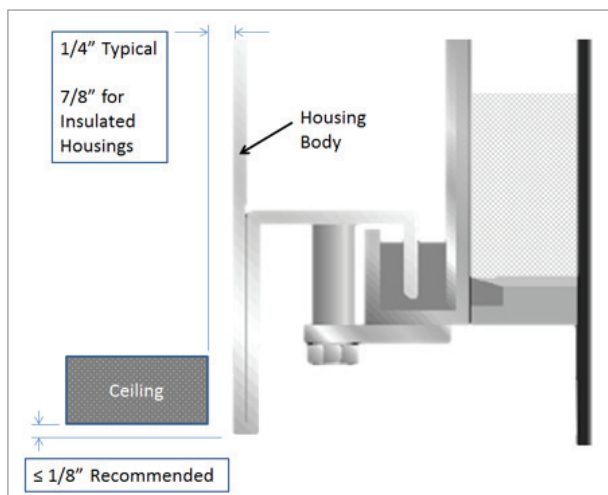

Fig. 08 Field-Installed Trim 1
2. Level and align bottom lip of housing with finish ceiling (see Fig. 08).